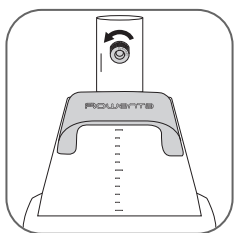

fig. 1
1. Unscrew the pole's fastening screw on the base of the pole. (fig. 1)